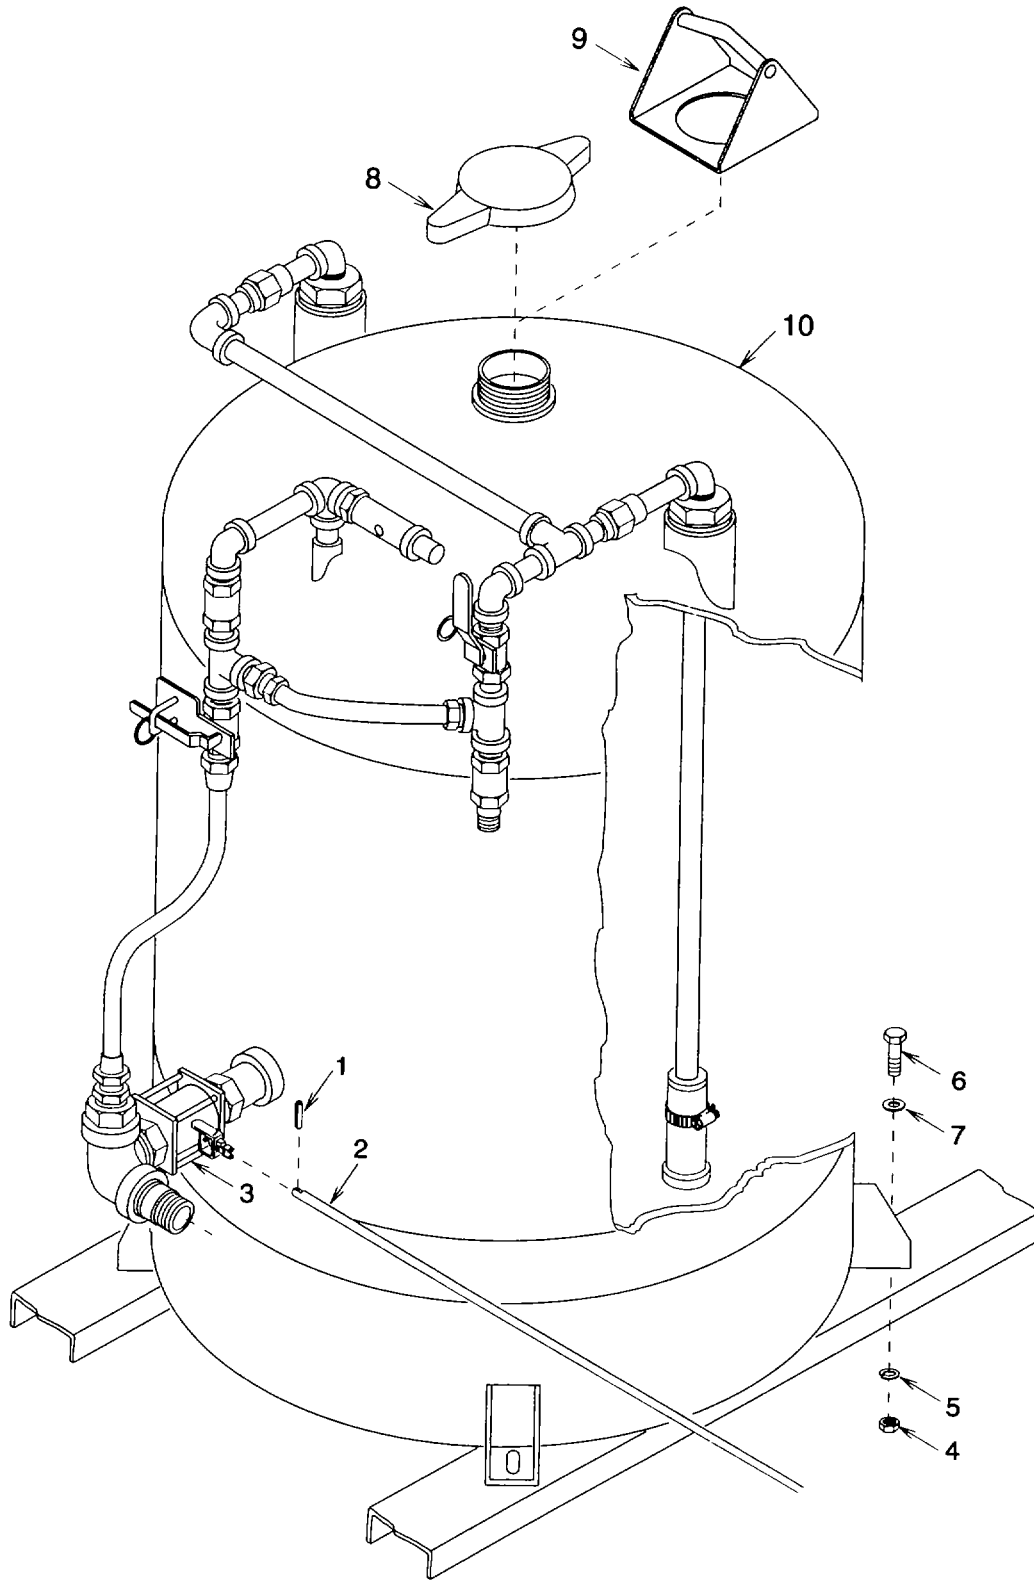

Figure 4-19. Dry Chemical Tank Removal
a. Removal (See figure 4-19.)
(1) Remove spring pin (1) and rod (2) from valve (3). Discard spring pin.
(2) Remove four nuts (4), lock washers (5), screws (6), and flat washers (7) Discard lock washers.
- (14) Push loose cable (8) end through another new cable sleeve (52). Push cable end back into cable sleeve to form a loop Just large enough to fit retaining clip (4) through. Secure by crimping sleeve. Repeat for second cable (8)
- (15) Slip one retaining clip (4) into each cable (8) loop.
- (16) Install ball valve mounting bracket (7) onto ball valve (9) with two screws (5).
- (17) Install ball valve mounting bracket (6) onto ball valve (14) with two screws (5)
- (18) Install one retaining clip (4) over ball valve (9) handle m open position and one retaining clip over ball valve (14) handle m closed position. Install one strip tie (3) between each retaining clip and valve mounting bracket (6) and (7).
- (19) Install fill cap (1) and hand tighten only.
e. Installation (See figure 4-19.)
- (1) Remove cap (8) and place tank lifting tool (9) onto tank (10) fill collar. Install cap.